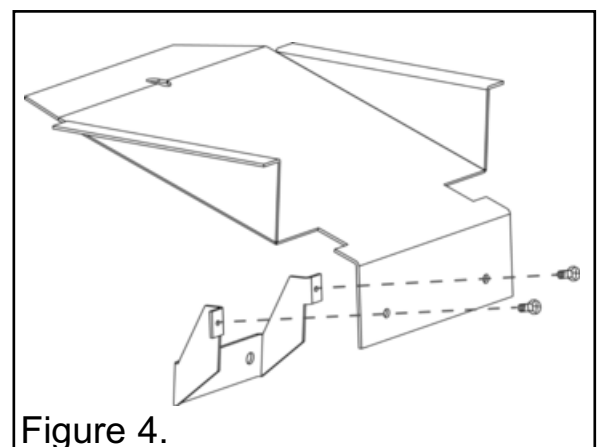

Figure 4.
- These should be fitted to the stove following figures 4, 4A, 4B and 5.
Fit the Spacer bracket as shown in figure 4 tightly to the Draught Deflector using the two screws